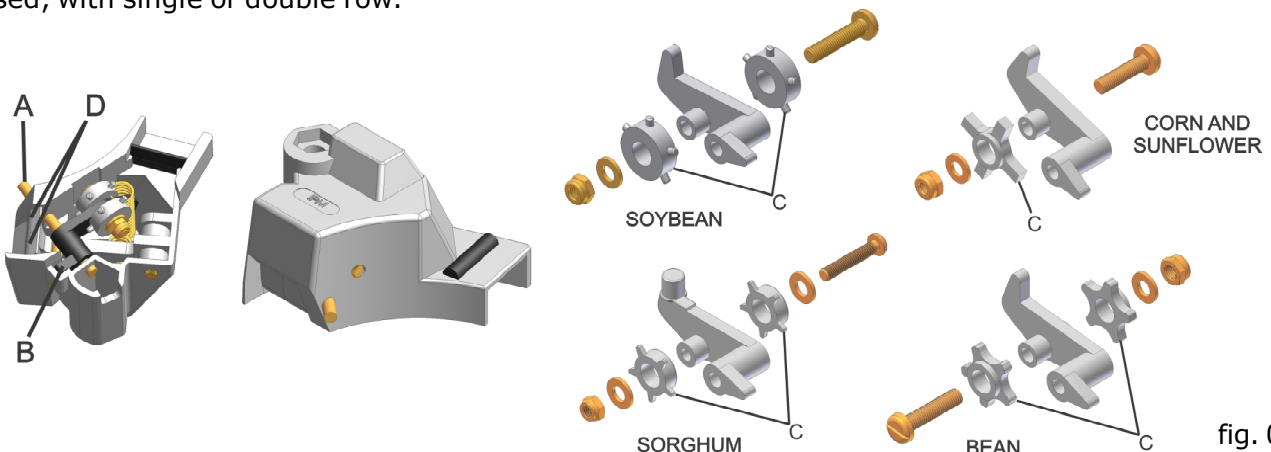

fig. 06
- 2- Remove the holding pin from jointer of roller (A) (fig. 06);
- 3- Withdraw the jointer and change the roller model if necessary (B);
- 4- Note the roller model (C) to be used. It should be conformable with the holes of the disc to be used, with single or double row.